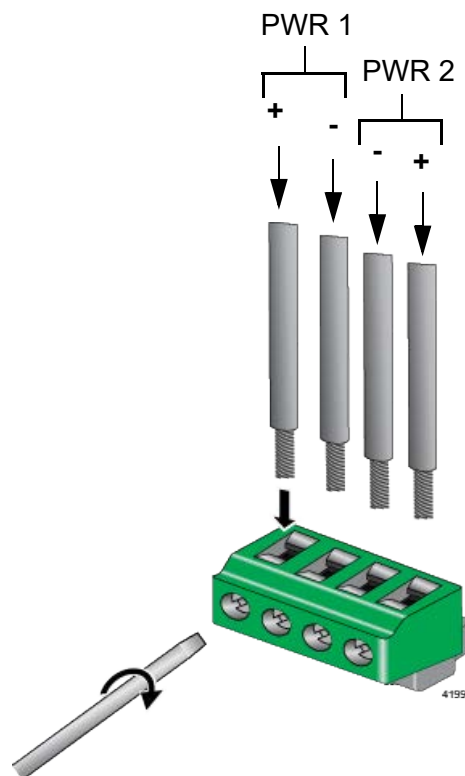

Figure 59. Inserting the Wires into the PWR 1 - PWR 2 Cable Connector
- Insert the wires into the connector and tighten the retaining screws to secure the wires. Refer to Figure 59. If you are using only one power supply, you may use either PWR 1 or PWR 2.